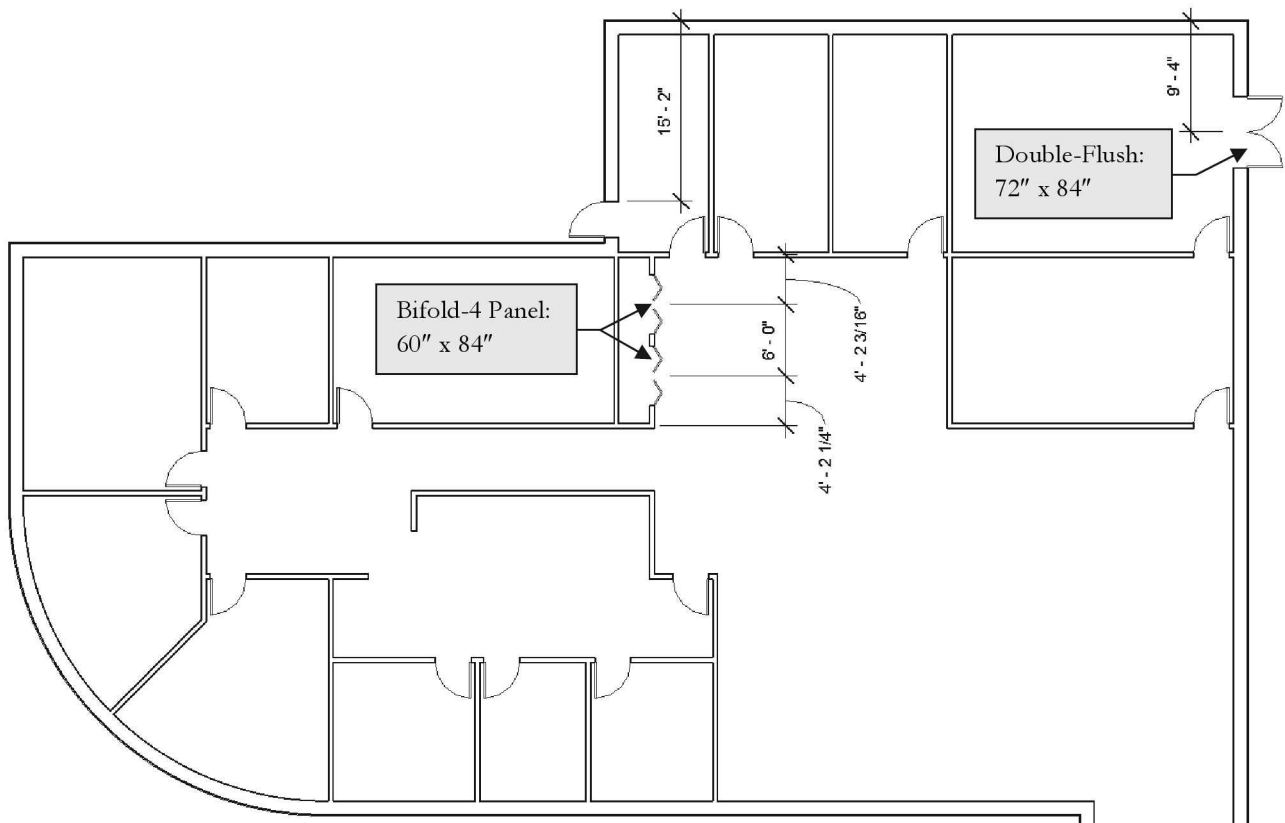

FIGURE 5-4.9 Level 1 doors to be inserted
11. Finish inserting the 17 additional doors for Level 1. (Figure 5-4.9) Use the following guidelines:
- a. Use the door styles shown in Figure 5-4.9; doors not labeled are to be **Single-Flush 36" x 84"**.